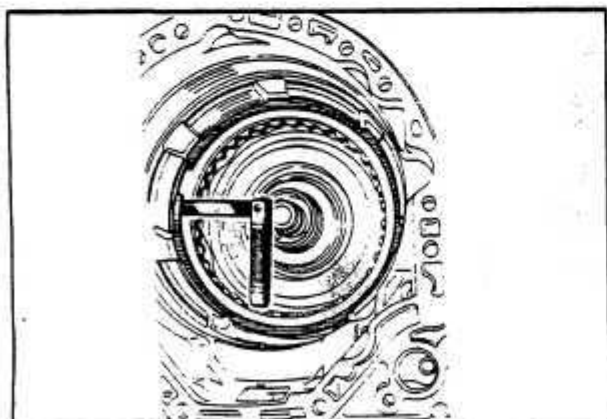

Fig. 46 BRAKE B-1 DISC PACK
2. Remove the lock ring, pressure plate, and discs from the transmission case. *Fig. 46*
3. Remove the two (2) sealing rings from the hub in the bottom of the case.
12. Fit the pressure plate on top of the last lined disc and install the lock ring. *Fig. 46*